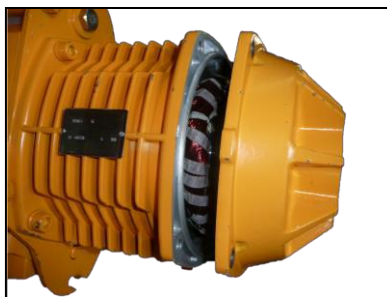

Figure 7.4.2
2. Carefully pull the motor brake unit out of the hoist (see Figure 7.4.2).